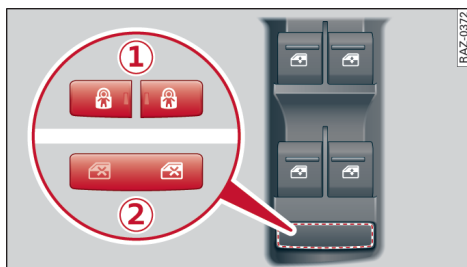

Fig. 32 Driver's door: Controls
- To activate/deactivate the child lock (for the interior door handle and electric window switch) on each of the rear doors, press the left/right  button on the driver's door ① ⇒ Fig. 32. The LED in the button will light up or go out.
- To activate/deactivate the child lock for the electric window switches in the rear doors, press the  button on the driver's door ② ⇒ Fig. 32. The LED in the button will light up or go out.